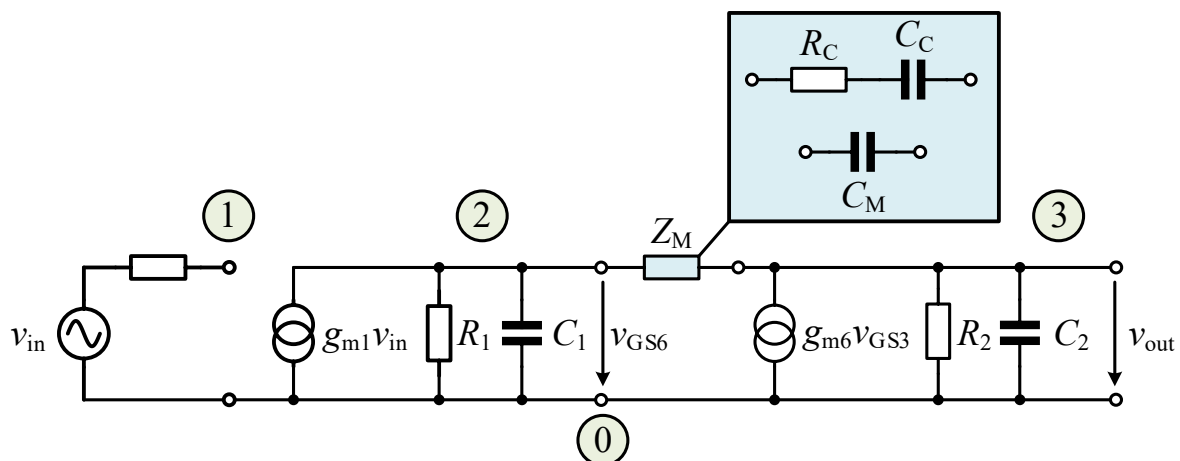

Figure 2: Small signal model of the two-stage amplifier shown in Fig. 1.
- a) R_1 and R_2 shown in Figure 2 represent the output resistance of the differential amplifier (first stage) and the output resistance of the inverter with current source load (second stage) respectively. Determine their values with respect to T_{1-4} , $T_{6,7}$ in terms of r_{DS} and g_m !
- b) C_1 and C_2 represent the total capacitance from N_1 and N_2 in Figure 2 to ground (N_0) respectively. Determine their values in terms of the parasitic capacitors of the transistors T_{1-4} , $T_{6,7}$ and the load capacitor C_L .
However, if a circuit becomes more complex, this approach becomes very prone to errors. A more systematic approach to the calculation of the small-signal gain is offered by the approach of the network analysis. This approach allows for the calculation of every node voltage V_1 , V_2 and V_3 in Figure 2 with respect to an arbitrarily chosen reference point (labeled N_0) to be performed. To perform a network analysis, every voltage source must be converted into a current source first!